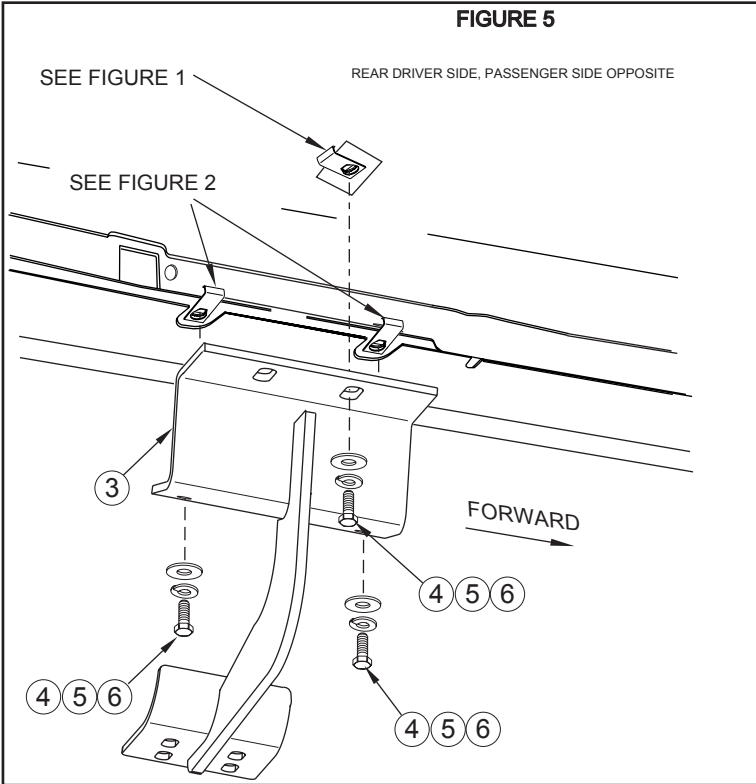

FIGURE 5
- STEP 4. Loosely attach rear brackets to underside of body panel as shown. **SEE FIGURE 5.** **NOTE:** Rear brackets are wider than front brackets.